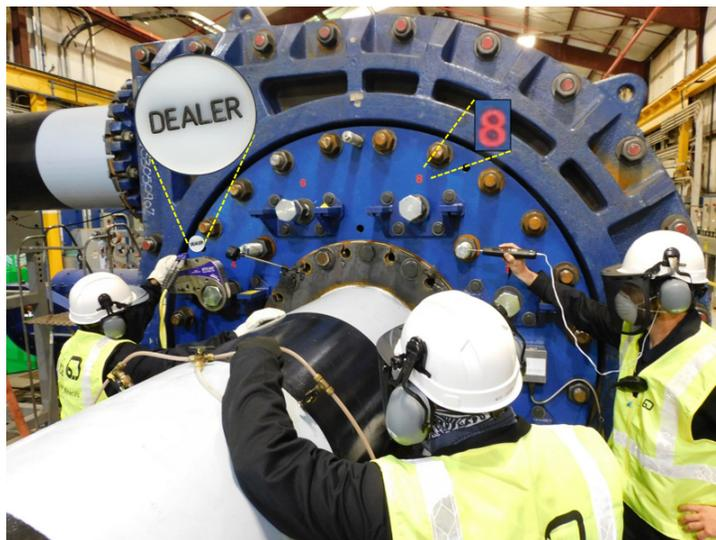

Figure 10-34: Use of “Dealer” Chip and Magnetic Numbers
2. Number the pusher bolts following a crosswise torque pattern. (See Figure 10-29 on page 65.) We recommend using a magnetic “dealer” chip and magnetic numbers (Figure 10-34) to keep track of what bolts have been adjusted. Move the chip to the next number immediately after each bolt has been turned, and stop when the chip reaches bolt #1.